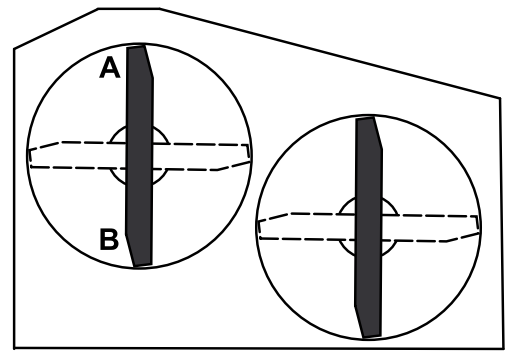

Figure 58
2. Position 1 blade front-to-rear. Measure at **A** and **B** locations from a level surface to the cutting edge of the blade tips (Figure 58).